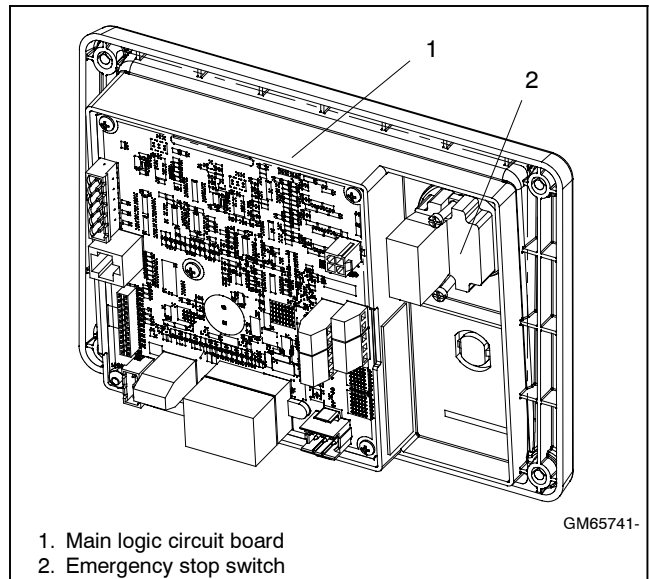
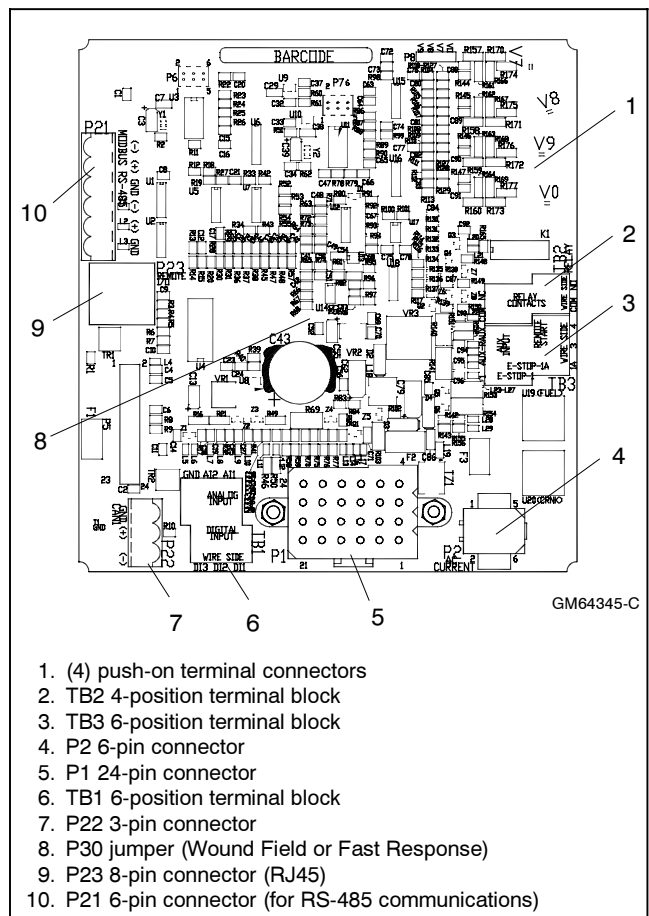

Figure 6-4 Main Circuit Board and Emergency Stop Switch
Figure 6-5 Main Circuit Board Connectors
- c. Disconnect the controller harness leads. Listed below are some common leads and plugs that require removal or disconnection. Items below in **bold** are shown in Figure 6-4 and Figure 6-5. These connections are typical and may not apply to all applications. See the corresponding wiring diagram found in the respective wiring diagrams manual.
- a. Reconnect all of the electrical connections disconnected in step c. Refer to Figure 6-4 and Figure 6-5.